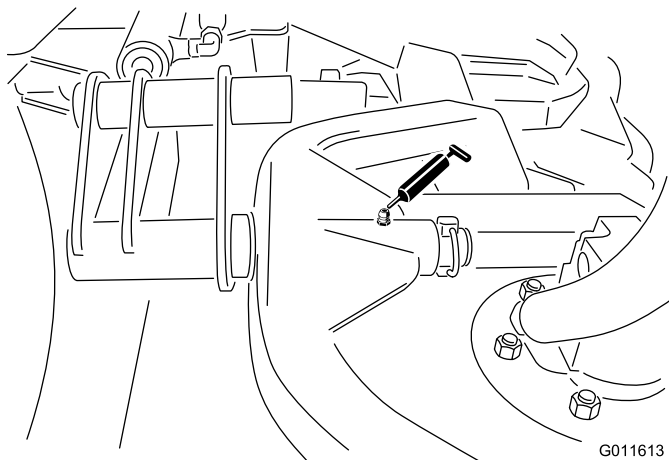

Figure 29
- Lift arm pivots (1 each) (Figure 29)